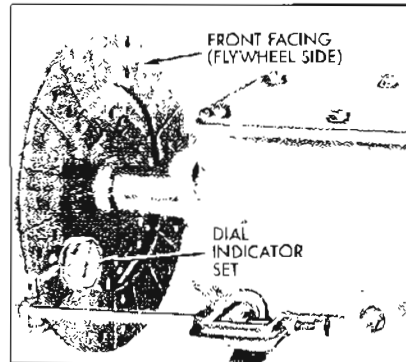

Figure 4-7—Checking Driven Plate For Run-Out
plate, front side first, over the transmission main drive gear until it is tight on the spline, then setting up a dial indicator to bear against the plate facing as shown in Figure 4-7. While holding firmly against front end of main drive gear bearing, slowly rotate driven plate and observe the amount of run-out shown by indicator. If run-out of front facing exceeds $.025''$, the plate should not be used since it is not practical to correct excessive run-out by bending.
6. Lubricate the recess on the inside of the throw-out bearing collar. See Figure 4-7.